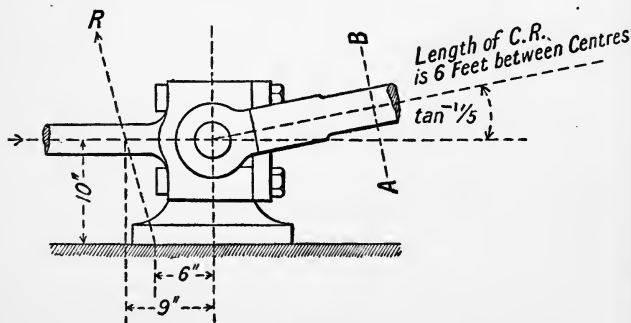

Fig. 8
8. Fig. 8 represents the cross-head of a steam engine. Owing to insufficient lubrication of the slide and pin, the reaction of the slide is displaced into the position shewn. The thrust in the piston-rod being axial and of magnitude 8 tons, determine the position and magnitude of the thrust on the section AB of the connecting rod taken 18 inches from the centre of the pin.